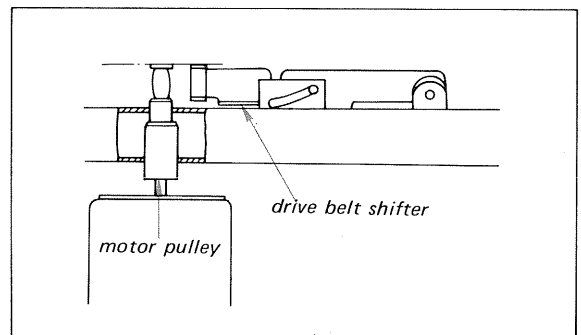

Fig. 3-3. Pulley-height adjustment
2. Install the replacement pulley, and then adjust the pulley height. The top of the motor pulley should be in line with the drive belt shifter (33 rpm position) as shown in Fig. 3-3.